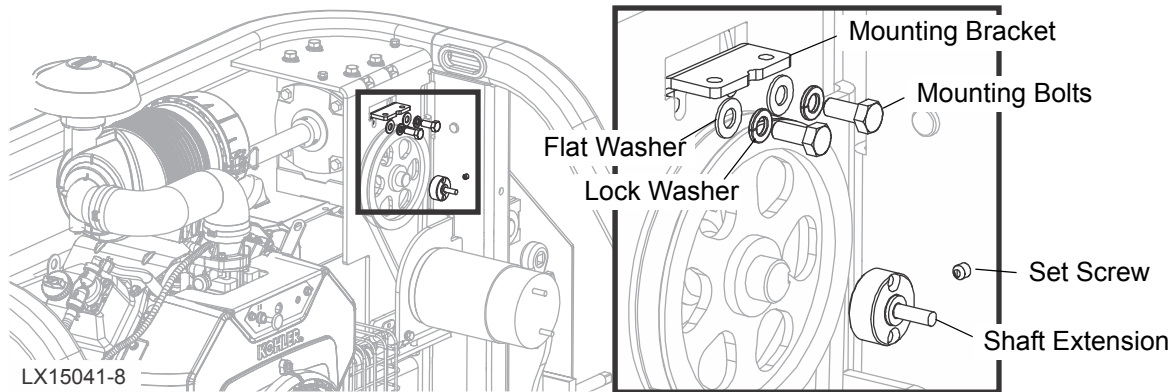

FIGURE 7
2. Place the shaft extension over the gearbox shaft and tighten with the setscrew. (See FIG. 7.)
- Place the small encoder mounting bracket on the gearbox housing and tighten the screws. (See FIG. 7.)